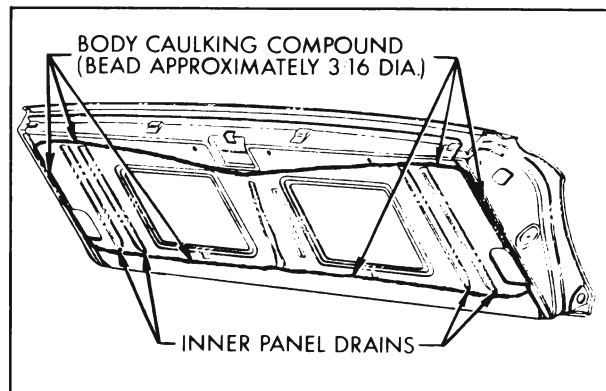

Figure 4-29—Tail Gate Water Deflector Sealing
3. Apply a bead of body caulking compound (approximately 3/16" diameter) to tail gate inner panel along a line as indicated in Figure 4-29.